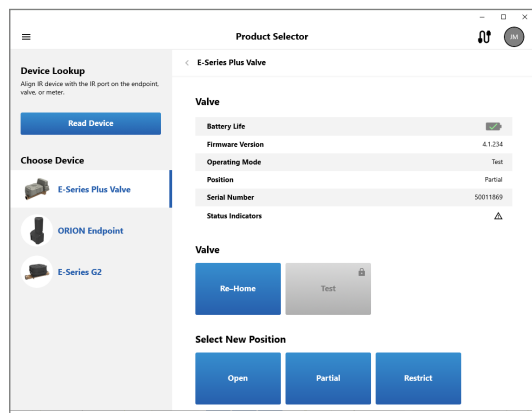

Figure 32: Valve readings prior to actuation
2. With the IR device aligned to the valve IR port, select **Read Device**. Readings for the valve are displayed. The screen shows the current valve position is **Partial** and the Operating Mode is **Test**. The **Test** button is grayed out since the valve is in **Test** mode (Figure 32).